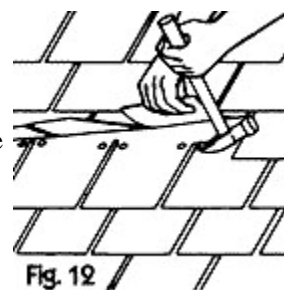

Fig. 12
4. Raise the shingle above the damaged one. Pull the nails from the damaged shingles with the claw hammer (Figure 12). If nails cannot be reached with a hammer, cut them off with a hacksaw blade.